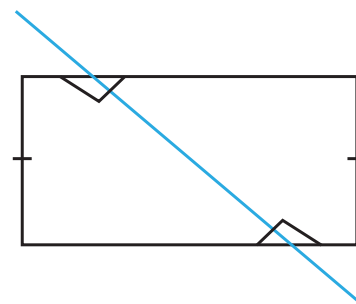

Figure 3. This axis is placed at an extreme angle to the center axis, one of thousands of ways to place a new axis.
- The angle of an axis as it crosses the center axis can be extreme by using the sides of the wood rather than the ends (Figure 3).